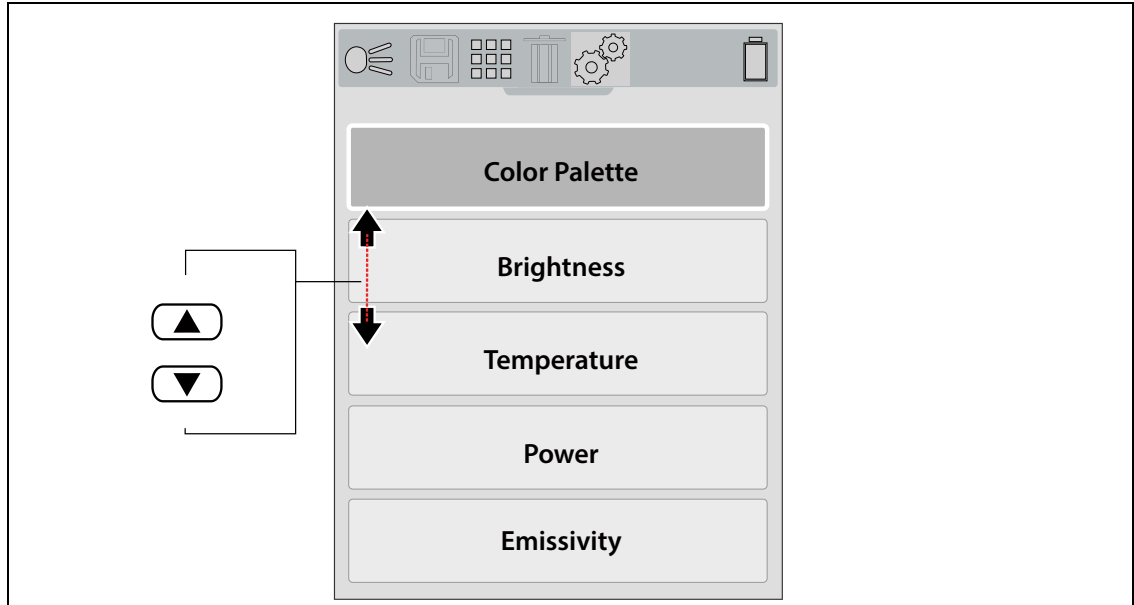

Figure 5-2
2. Use the **UP** ▲ / **DOWN** ▼ control buttons to select an option from the menu (Figure 5-2). Press the **Y** button to select it.